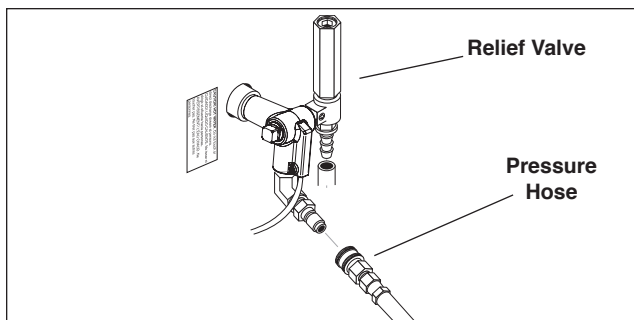

Figure 1 - Pressure Hose Installation
2. Install high pressure hose on machine as shown in **Figure 1**.